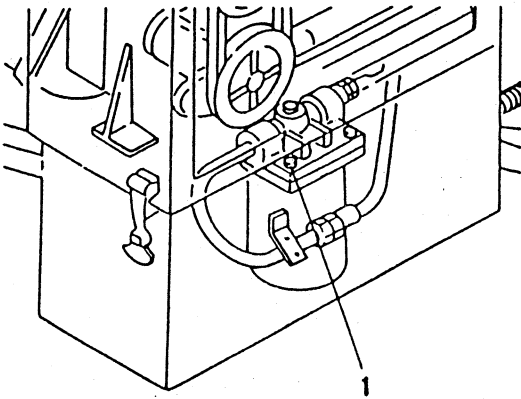

Fig. 27 Hyd. oil line filter
- 1 Close Fig. 27- 1 circuit valve with screwing- in. Then the hydraulic oil does not circulates.
- 2 Loosen and remove four cap screws of Fig. 27- 2. Then the filter shell can be removed- out.